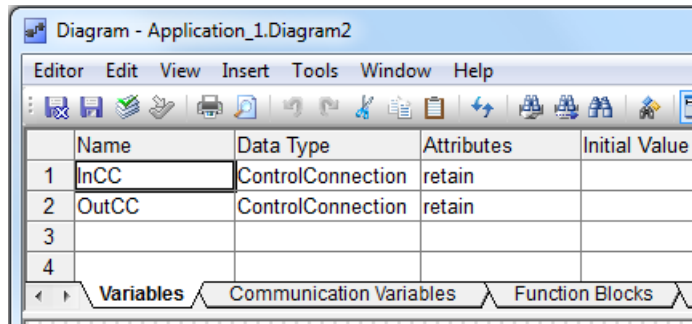

Figure 62. Variables for connecting the CCTemplate object in the diagram
3. In the declaration pane of diagram editor, declare two variables (InCC and OutCC of ControlConnection) according to Figure 62.